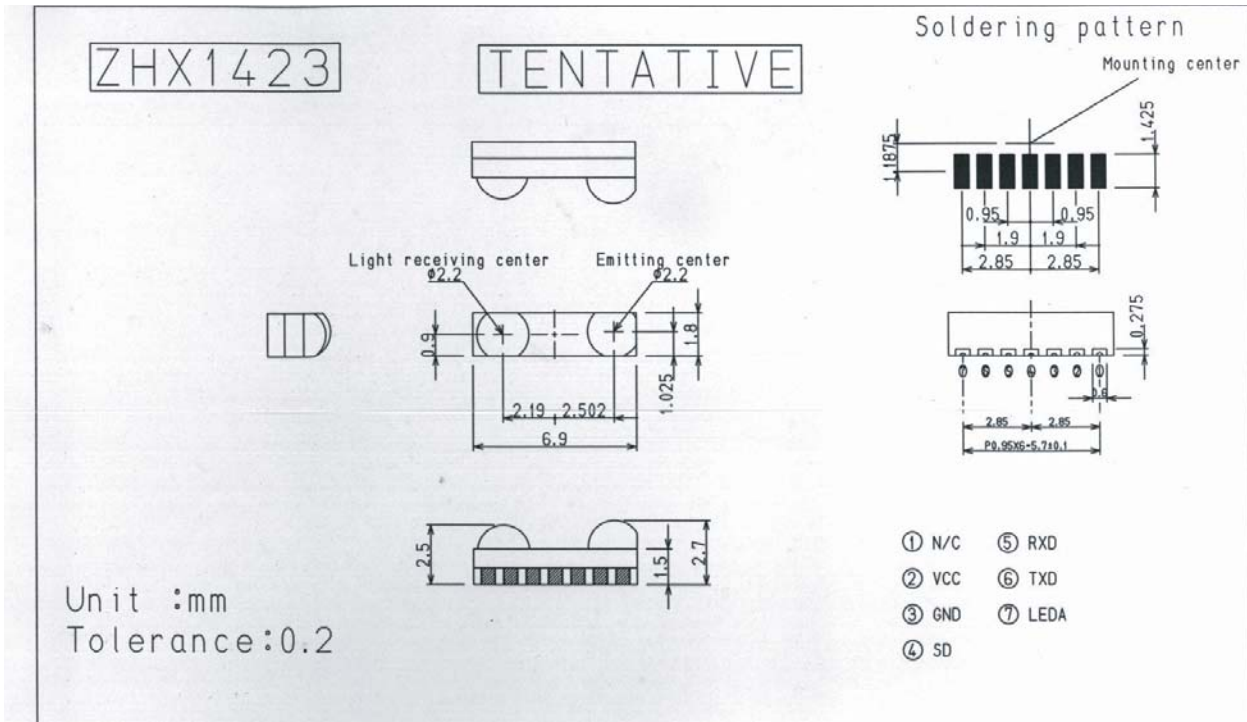

Figure 48. ZHX1423 Transceiver
- ZHX1423 (Figure 48 on page 45)